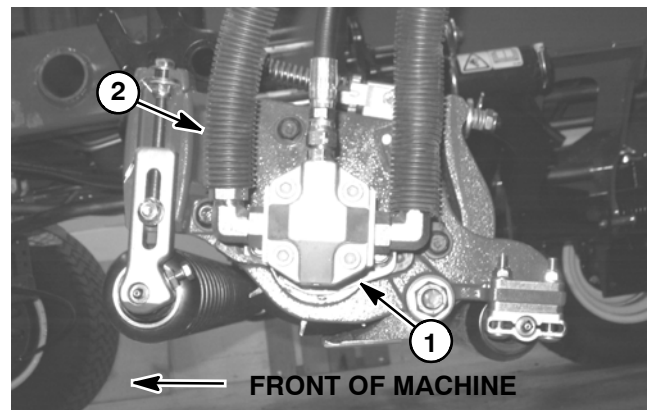

Figure 38
6. Thoroughly clean junction of hydraulic inlet hose and reel motor fitting on left side cutting unit for the relief valve to be tested. Disconnect hose from reel motor fitting (Fig. 38):